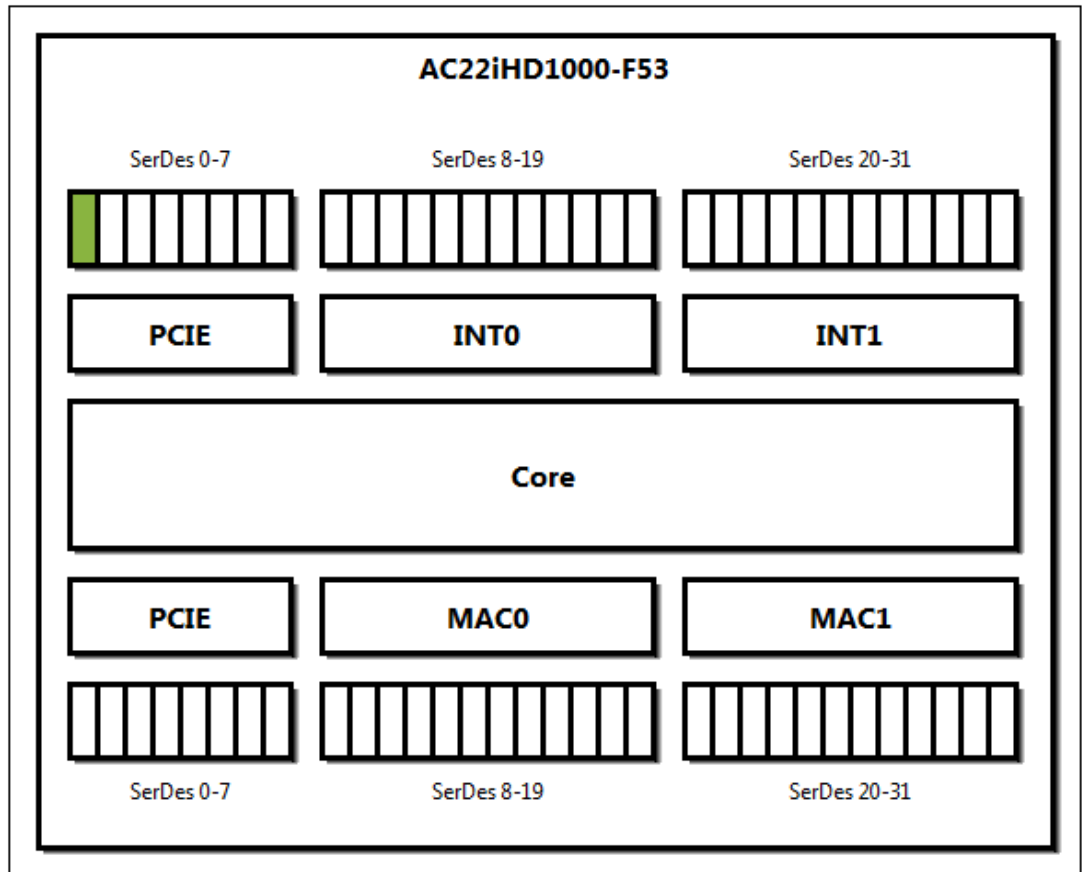

Figure 39: Physical assignment of SerDes Lanes
- Figure 39: Physical assignment of SerDes Lanes below.